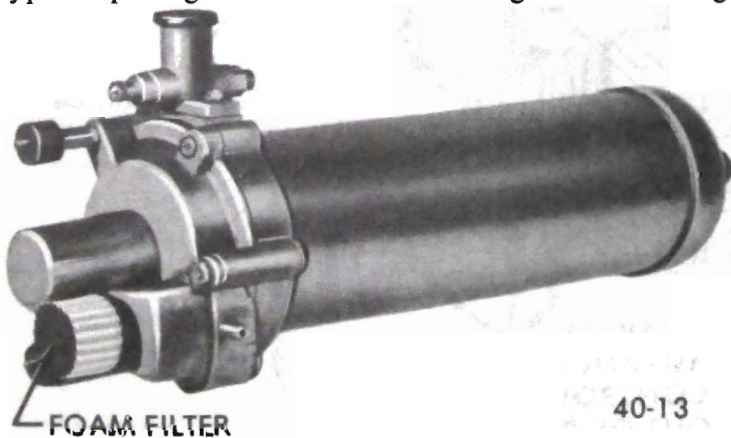

Figure 40-14 - Compressor, Reservoir Tank and Regulator Valve Assembly
b. The compressor is a two-stage, vacuum actuated type, requiring no lubrication. See Figure 40-14. High